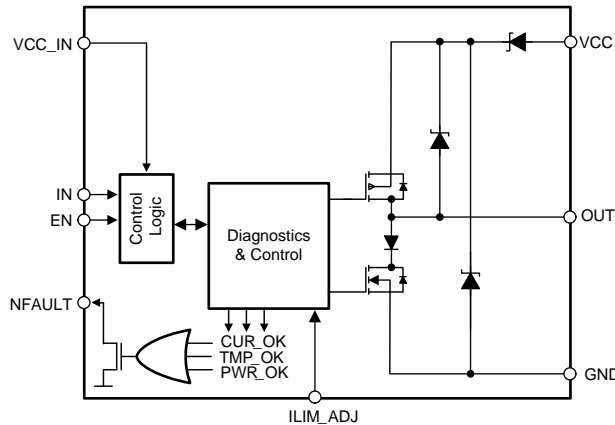

Figure 8. Block Diagram, TIOS101
Figure 8 shows that the device driver output (OUT) can be used in a push-pull, high-side, or low-side configuration using the enable (EN) and transmit data (IN) input pins. OUT can drive resistive, large capacitive or large inductive loads.